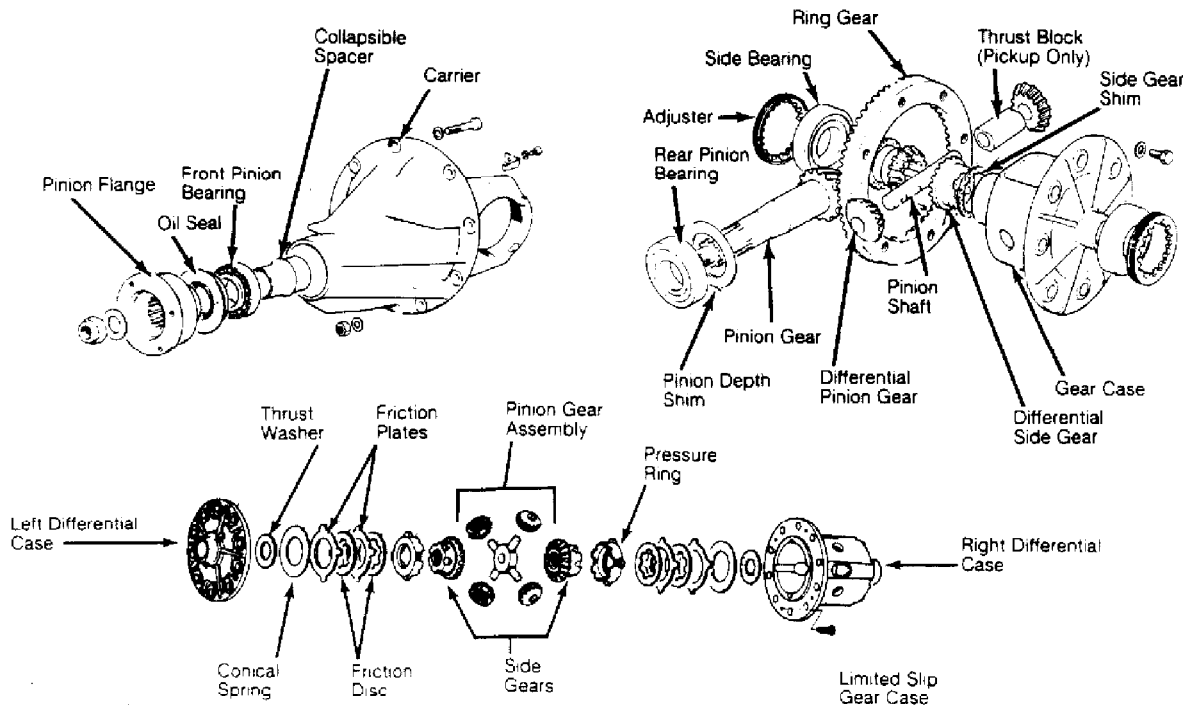

Fig. 1: Exploded View of Mazda Rear Axle Assembly
- 4) On limited slip differentials, gradually loosen attaching screws until distance between left and right half of differential case is about 0.12" (3 mm). Then carefully separate differential halves. Remove following parts: Thrust washer, conical spring, friction plate, friction disc, pressure ring, side gear, pinion gear and spider. Keep parts in order for reassembly. See Fig. 1.